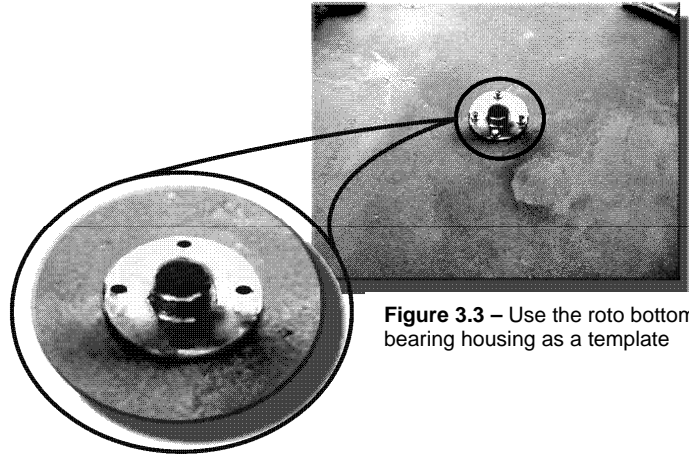

Figure 3.3 – Use the roto bottom bearing housing as a template
3. Center one of the Roto Bottom Bearing Housings at the intersection of the first turnstile and Roto centerlines. Mark the center location of the four anchor holes for the Roto Bearing Housing, see **Figure 3.3**. Move the Roto Bottom Bearing Housing to the side and drill a 5/8" diameter hole at the center of each marked location. Drill each hole 3" deep. For terrazzo, ceramic tile, or brick veneer installations, add the thickness of the finished floor material to the anchor hole depth. For more information review the detailed drawings on pages 19-21.